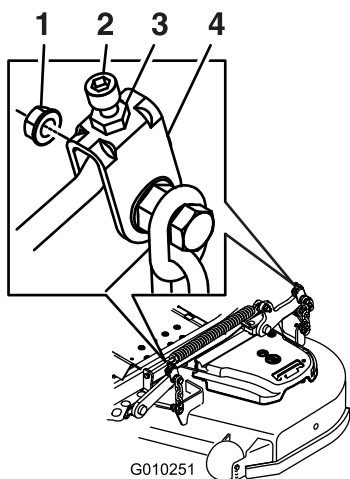

Figure 88
11. For mower decks shown in Figure 88, fine-tune the adjustment nut on the front deck-lift assembly by turning it (Figure 88).
17. Fine-tune the screw adjuster by turning it to get 8.3 mm (3-1/4 inches) height (Figure 88).